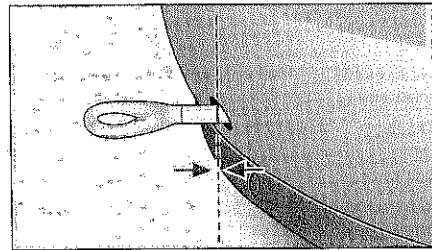

Fig. 302 Rear bumper: towing loop inserted
- Screw the towing loop tightly into the threaded hole as far as it will go. The check marking must be flush with the bumper ⇒ fig. 302.